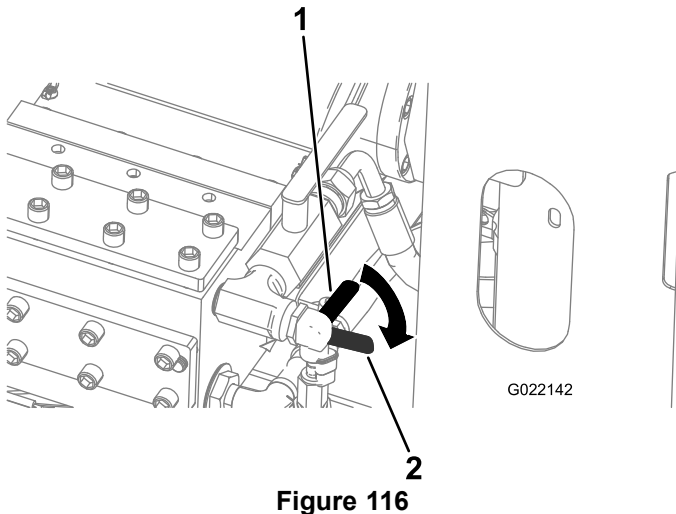

Figure 116
A. Open the antifreeze valve on the front side of the drilling-fluid pump (the lower valve) as shown in Figure 116.
6. Close the antifreeze valve (Figure 116).